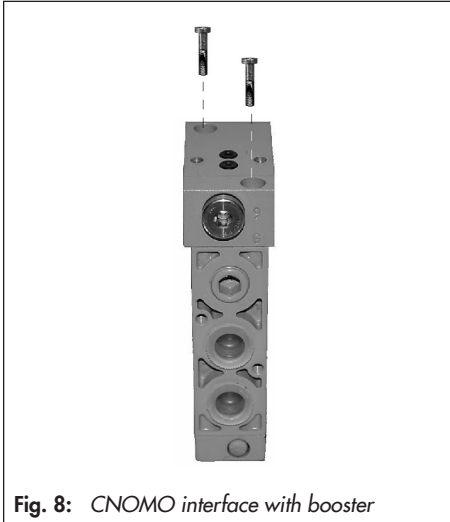

Fig. 8: CNOMO interface with booster
- Undo both hexagonal socket head screws (Fig. 7) and remove the black head. Make sure that the two black O-rings on the CNOMO interface do not get damaged (Fig. 8).
- Undo the two hexagonal socket head screws (Fig. 8) and carefully remove the CNOMO interface.
- Use the two hexagonal socket head screws to fasten the CNOMO interface (Fig. 8).